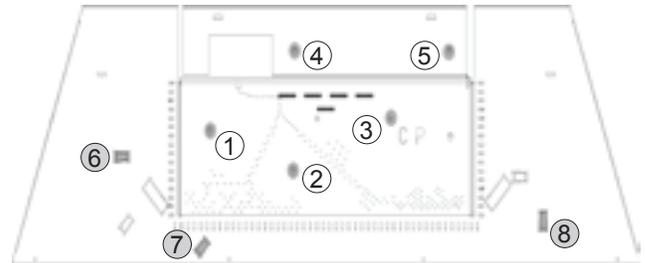

Figure 2
2. Remove the burner cover. Using a screwdriver push up pins 6, 7 and 8 for both model applications. See Figures 2 and 3.
STEP 1. Push up pins 6, 7 and 8 as shown in **Figure 2**. Replace burner cover inside fireplace.